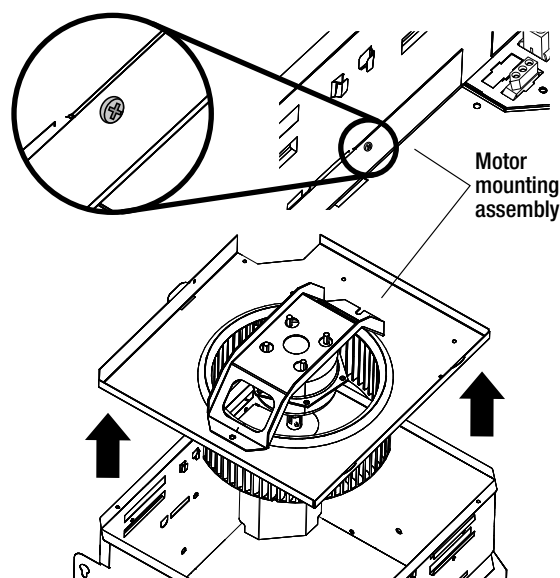

Fig. 7
- Remove the screw securing the motor mounting assembly to the fan housing and take the assembly out by releasing tabs. See figure 7.